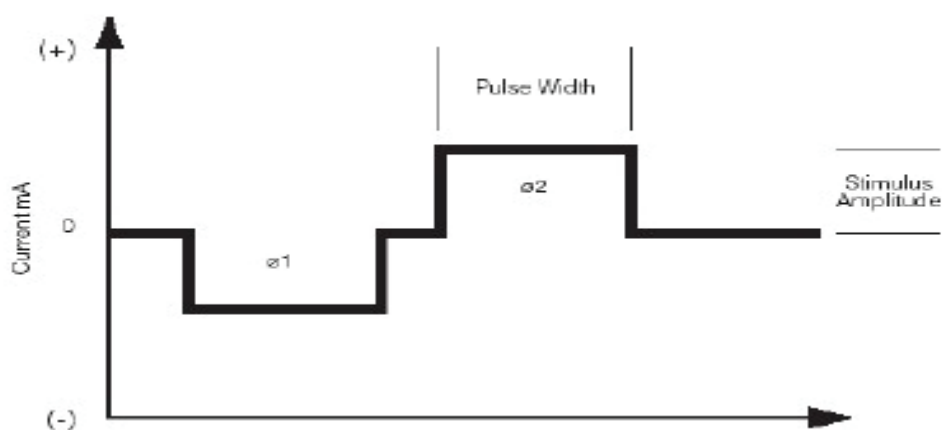

Figure 1: Current amplitude and pulse width
- **Charge-balanced, biphasic current pulse** – the electrical stimulus delivered to the nerve, the negative and positive phases are equal so that no net charge remains (see Figure 1). This form of stimulation is safe for biological systems.
- **Current Level (CL)** – the amount of electrical current delivered to the implant recipient expressed in clinical programming units from 1 – 255. Current Levels represent the amplitude of the biphasic current pulse in microamperes (μA) on a log scale similar to dB ($5.7 \text{ CL} = 1 \text{ dB}$). The amplitude range of the cochlear implant stimulator is $10 \mu\text{A} - 1.75 \text{ mA}$ (see Figure 1 on page 3).
- **Pulse Width (PW)** – the amount of time the stimulator delivers current, expressed in microseconds (μs) per phase of the biphasic current pulse (see Figure 1 on page 3).